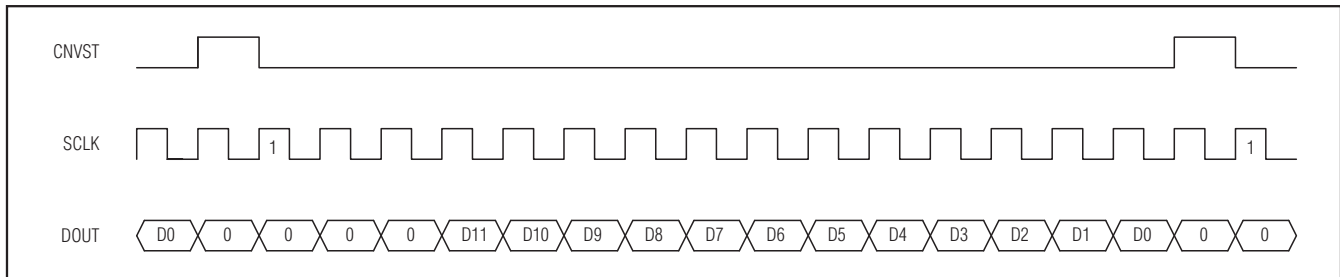
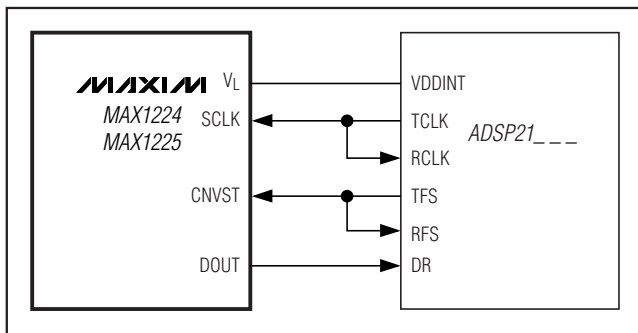

Figure 17. DSP Interface—Continuous Conversion
Figure 19. Interfacing to the ADSP21\_ \_ \_
The MAX1224/MAX1225 can also be connected to the TMS320C54\_ by using the data transmit (DX) pin to drive CNVST and the CLKX generated internally to drive SCLK. A pullup resistor is required on the CNVST signal to keep it high when DX goes high impedance and 0001hex should be written to the DXR continuously for continuous conversions. The power-down modes may be entered by writing 00FFhex to the DXR (see Figures 17 and 18).
The MAX1224/MAX1225 can be directly connected to the ADSP21\_ \_ \_ family of DSPs from Analog Devices, Inc. Figure 19 shows the direct connection of the MAX1224/MAX1225 to the ADSP21\_ \_ \_. There are two modes of operation that can be programmed to interface with the MAX1224/MAX1225. For continuous conversions, idle CNVST low and pulse it high for one clock cycle during the LSB of the previous transmitted word. The ADSP21\_ \_ \_ STCTL and SRCTL registers should be configured for early framing (LAFR = 0) and for an active-high frame (LTFS = 0, LRFS = 0) signal. In this mode, the data-independent frame-sync bit (DITFS = 1) can be selected to eliminate the need for writing to the transmit-data register more than once. For single conversions, idle CNVST high and pulse it low for the entire conversion. The ADSP21\_ \_ \_ STCTL and SRCTL registers should be configured for late framing (LAFR = 1) and for an active-low frame (LTFS = 1, LRFS = 1) signal. This is also the best way to enter the power-down modes by setting the word length to 8 bits (SLEN = 1001). Connect the  $V_L$  pin to the ADSP21\_ \_ \_ supply voltage when the MAX1224/MAX1225 are operating with a supply voltage higher than the DSP supply voltage (see Figures 17 and 18).